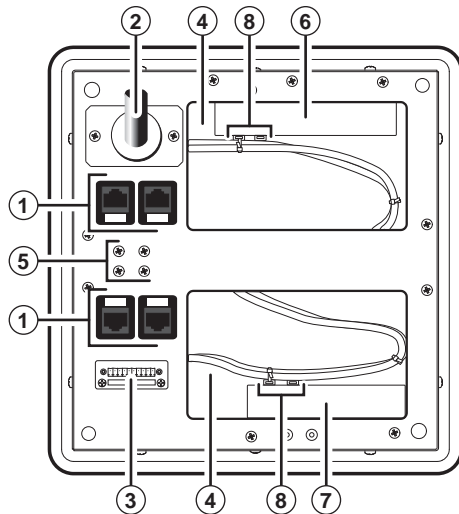

Figure 2-8 — HSA 822M underside features
4. Replace the AAP/RJ-45 panel in the surface mount enclosure and secure it in place with the screws removed in step 1. If you lose an AAP/RJ-45 panel screw, four spare screws are stored in the underside of the enclosure (figure 2-8 on page 2-10, item ⑤).